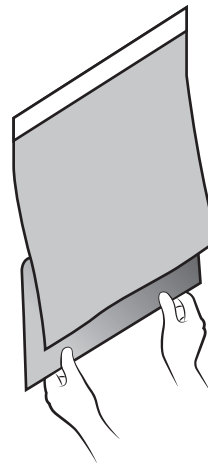

FIGURE 4
4. Keep the graphic away from the surface and use two hands to peel back the liner a few more inches. See FIGURE 4. Then, continue squeegeeing the graphic using the technique described above in step 3.